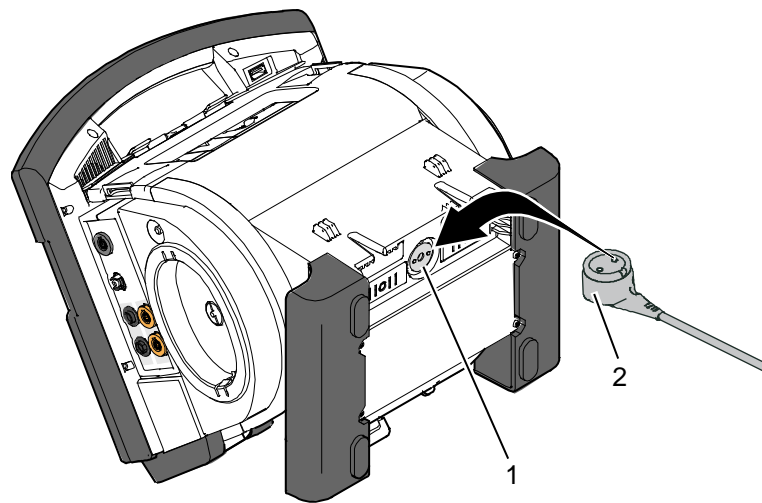

Fig. 3-22 Compact device, power supply (illustration may differ)
The connection (item 1, Fig. 3-22) on the defibrillator/pacer is used for power supply of